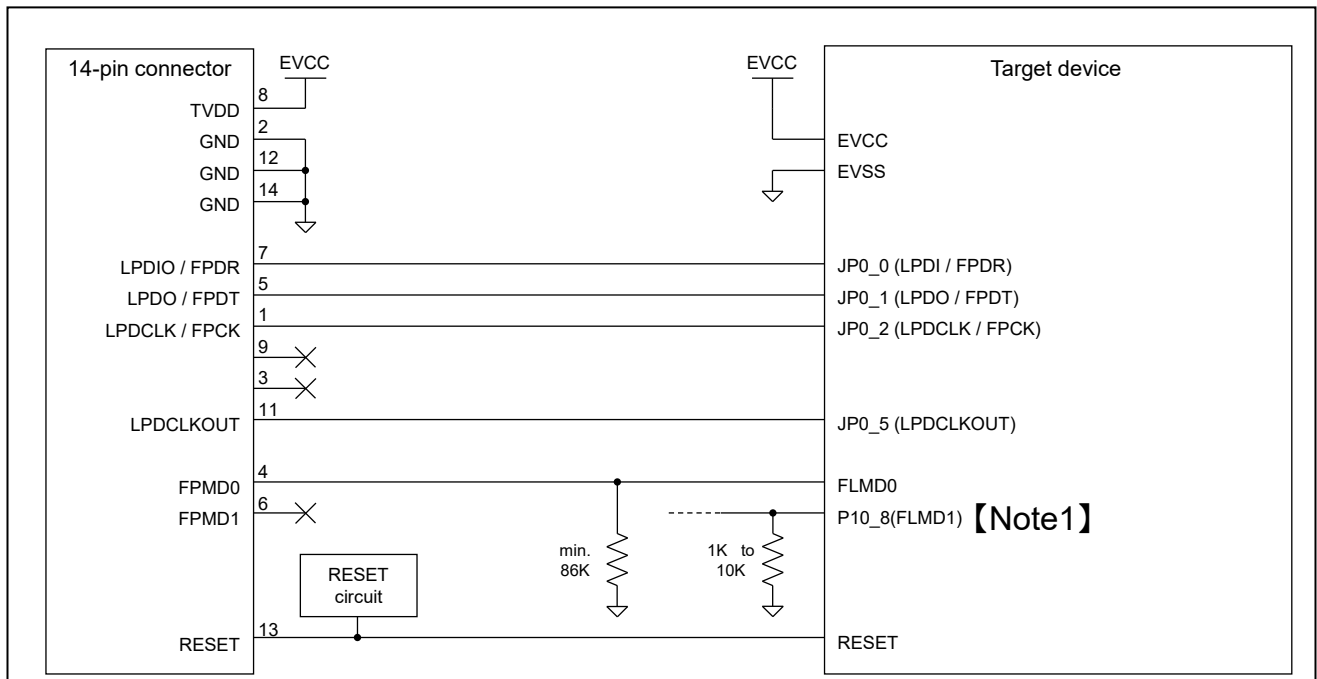

Figure 2-4 Example of Connection
| Both debugging (4-pin LPD) and programming (1-wire UART or 2-wire UART)              | Figure 2-4 |
- Note 2: Pulling up of JP0\_0 is only necessary if you are using the 1-pin LPD interface. If you are not using 1-pin LPD, make the connections shown in Figure 2-4.